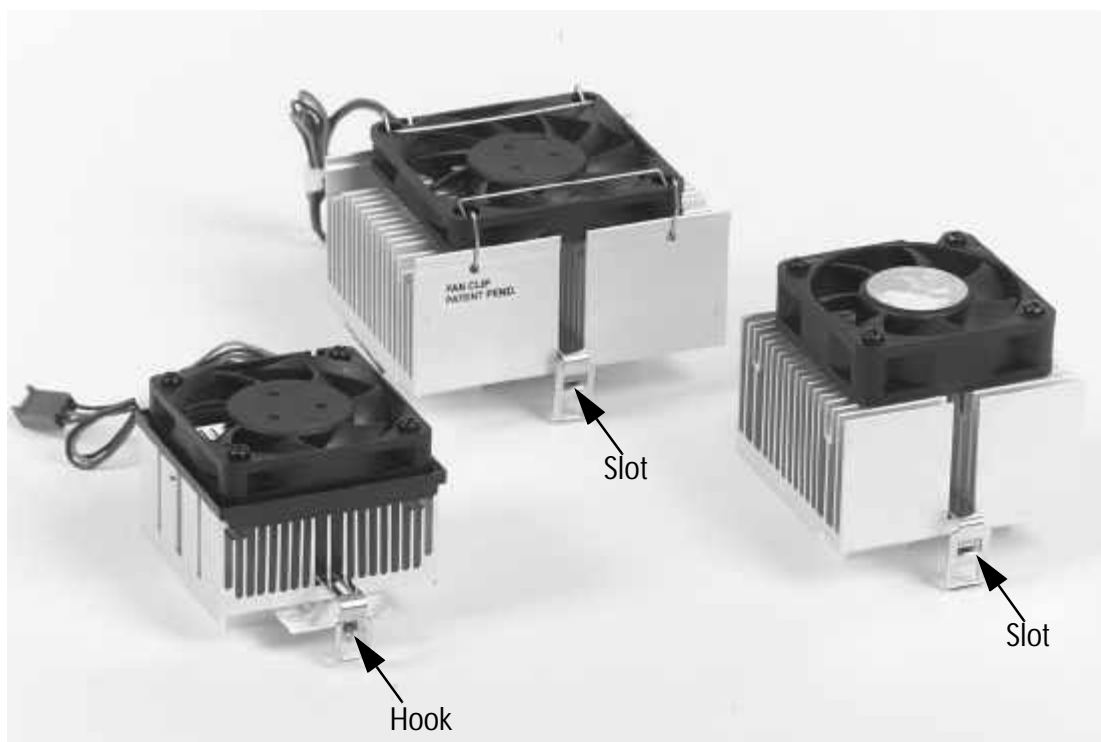

Figure 6. Typical Heatsinks Suitable for Use with Socket A AMD Processors
6. Figure 6 shows a sampling of the typical heatsink assemblies that are commonly used on the AMD socketed processors. Notice that the assemblies vary in size, fin density, and clip design. The appropriate heatsink to use will be determined by:
Notice the two different types of heatsink retaining clips shown in Figure 6. The style with the slight hook is designed to be installed with the open end of a nut-driver (looks like a screwdriver with a socket attached). The style of clip with the slotted end is designed to be pushed down with a screwdriver inserted into the slot.